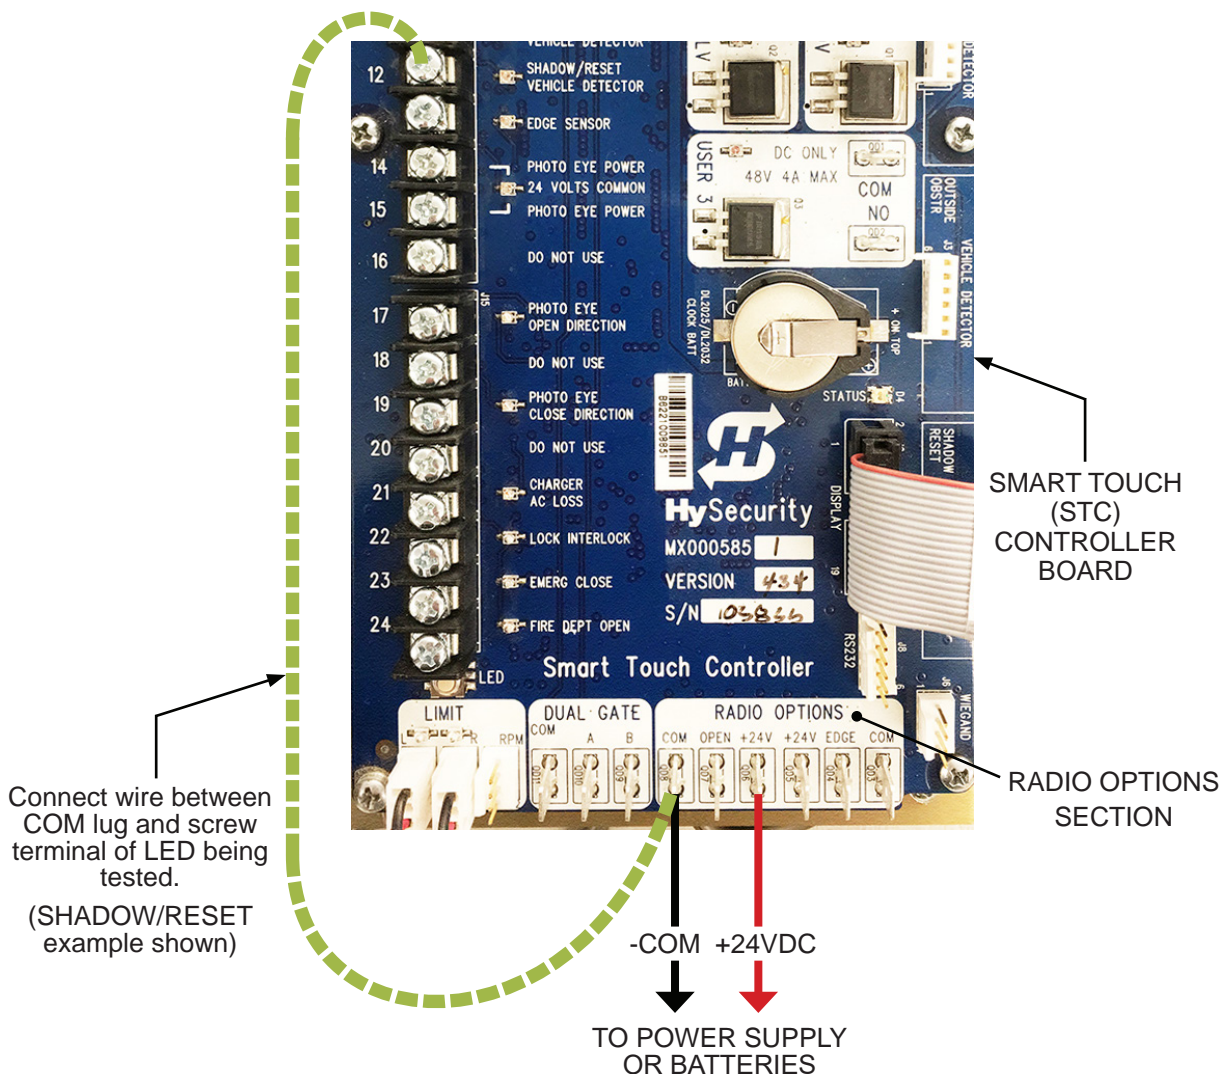

FIGURE 2: Testing STC Input LEDs Using 24VDC Power Source and COM Jumper
1. Apply 24V from a power supply or batteries to the +24V terminal (+) and the COM terminal (-) on the Radio Options section at the bottom of the board (FIGURE 2). This will power the board.